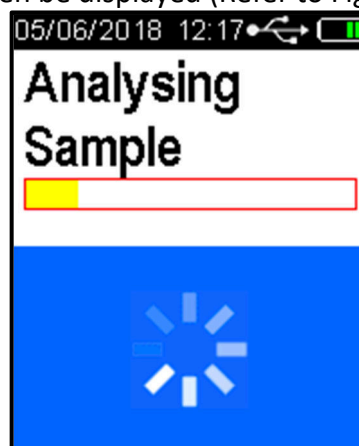

Figure 18 - Analysing Sample Message
- The device is set to take three pump samples. During these three pumps the operator must hold the device steady and at the same distance from the subject. The device will give three sample pump clicks, followed by a long beep sound. Analysing Sample will then be displayed (Refer to Figure 18).